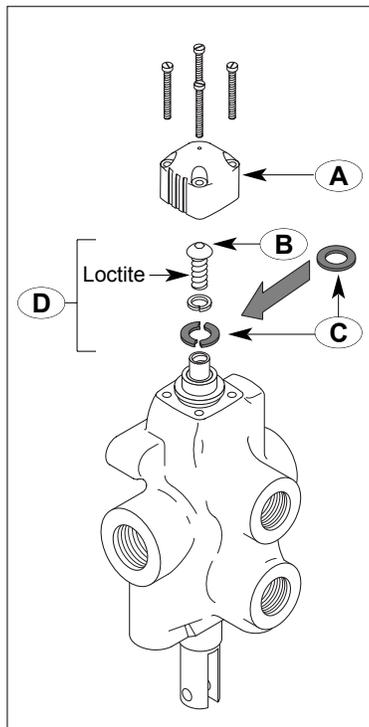

fig. 5
1. Remove the cap of the reversing valve — *fig. 5 detail A*.
2. Unscrew the spool end screw — *fig. 5 detail B*.
3. Install a new washer — *fig. 5 detail C*.
4. Put "Loctite 235" glue on the screw before screwing it — *fig. 5 detail D*.
5. Install the cap — *fig. 5 detail A*.